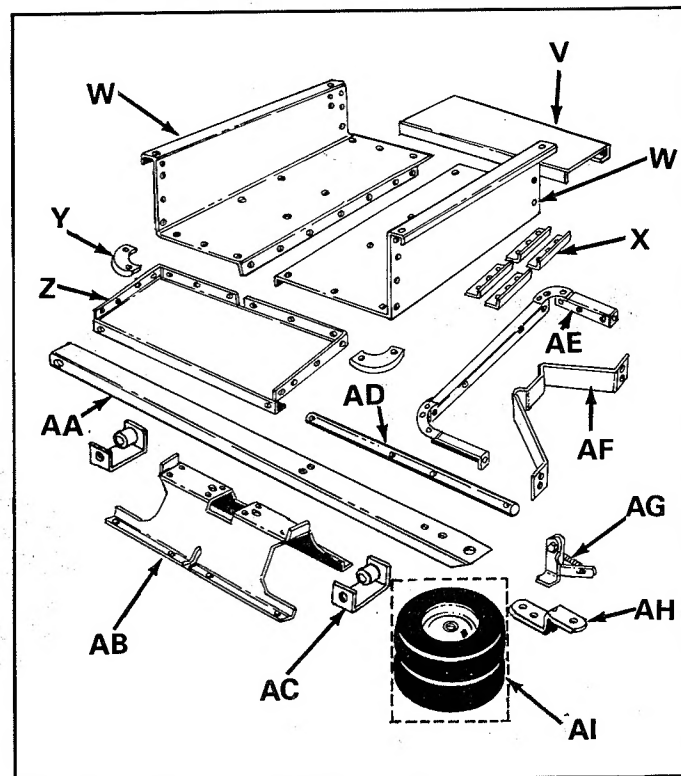

FIGURE 2
IDENTIFICATION OF LOOSE PARTS (See figure 2)
LOOSE PARTS (See figure 2)
2. Layout all the parts as shown in figure 2.